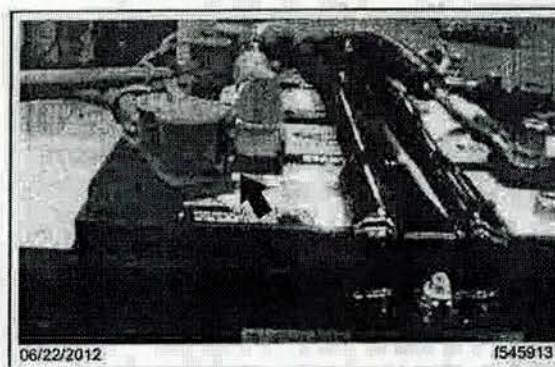

Fig. 3, Battery-Mounted Fuse
10. Attach the other end of the new battery cable, the new fuse, and new fuse holder to the positive battery post of the secondary battery. See Fig. 3. Tighten the fuse nut 96 to 108 lbf-in (1085 to 1220 N-cm).